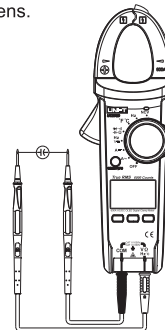

Fig. 10
9.Measurement of capacitance (shown as Fig. 10)